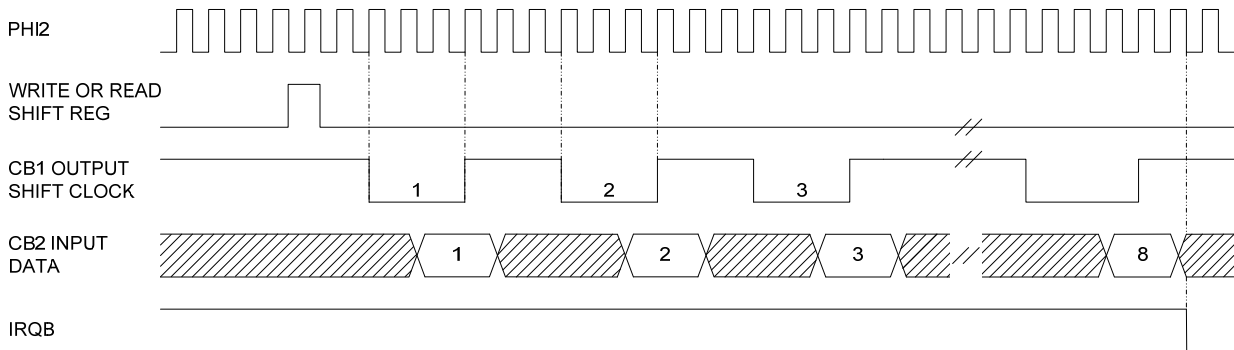

Figure 2-6 Shift In - Counter T2 Control
The Shift Register (SR) performs bidirectional serial data transfers on line CB2. These transfers are controlled by an internal modulo-8 counter. Shift pulses can be applied to the CB1 line from an external source, or (with proper mode selection) shift pulses may be generated internally which will appear on the CB1 line for controlling external devices. Each SR operating mode is controlled by control bits within the ACR. See Table 2-10 for control bit information. See also Figures 2-6 through 2-12.
2.12.2 Shift In - Counter T2 Control (001)
In this mode, the shifting rate is controlled by the low order eight bits of counter T2. Shift pulses are generated on the CB1 line to control shifting in external devices. The time between transitions of the CB1 output clock is determined by the PHI2 clock period and the contents of the low order T2 latch (N). Shifting occurs by writing or reading the SR. Data is shifted into the low order bit first, and is then shifted into the next higher order bit on the negative going edge of each clock pulse. Input data should change before the positive going edge of the CB1 clock pulse. This data is then shifted into the SR during the PHI2 clock cycle following the positive going edge of the CB1 clock pulse. After eight CB1 clock pulses, IFR2 will set and IRQB will go to a Logic 0. See Figure 2-6.